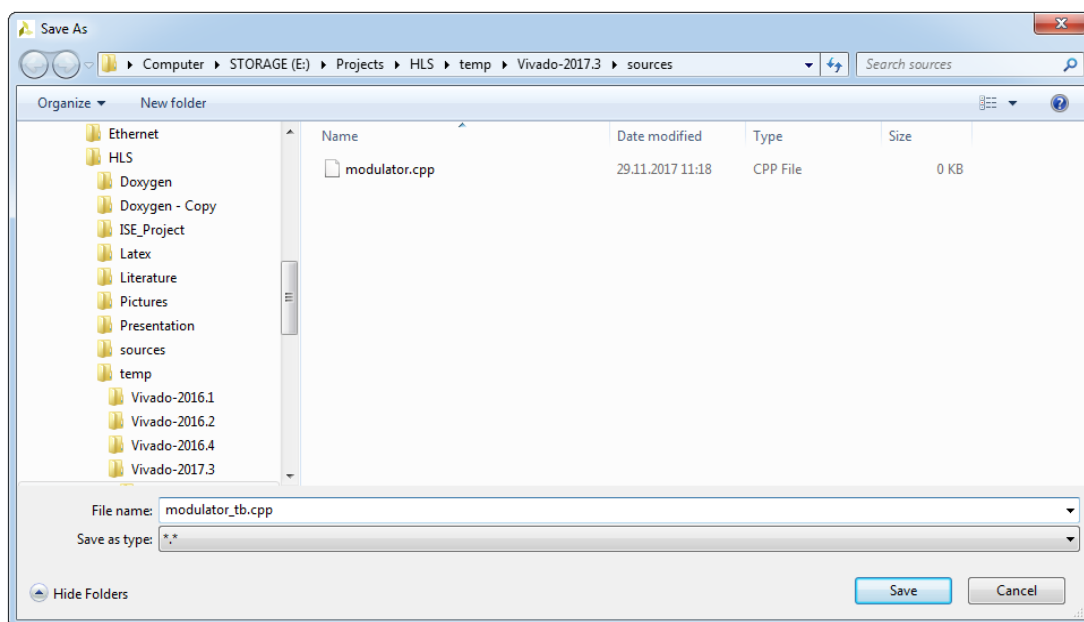

Figure 2.7: Save As dialog box with testbench file
- Click **New File...** button and in the **Save As** dialog box specify **modulator_tb.cpp** as a new testbench file name in the **File name** field and click **Save**, see Figure 2.7.